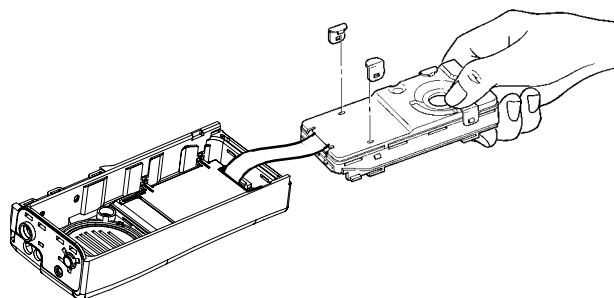

Figure 1-15. Place Chassis Opposite of Front Housing
8. Place the chassis assembly and front housing assembly on a flat surface with the top face of housing in a reverse and opposite direction (Figure 1-15).